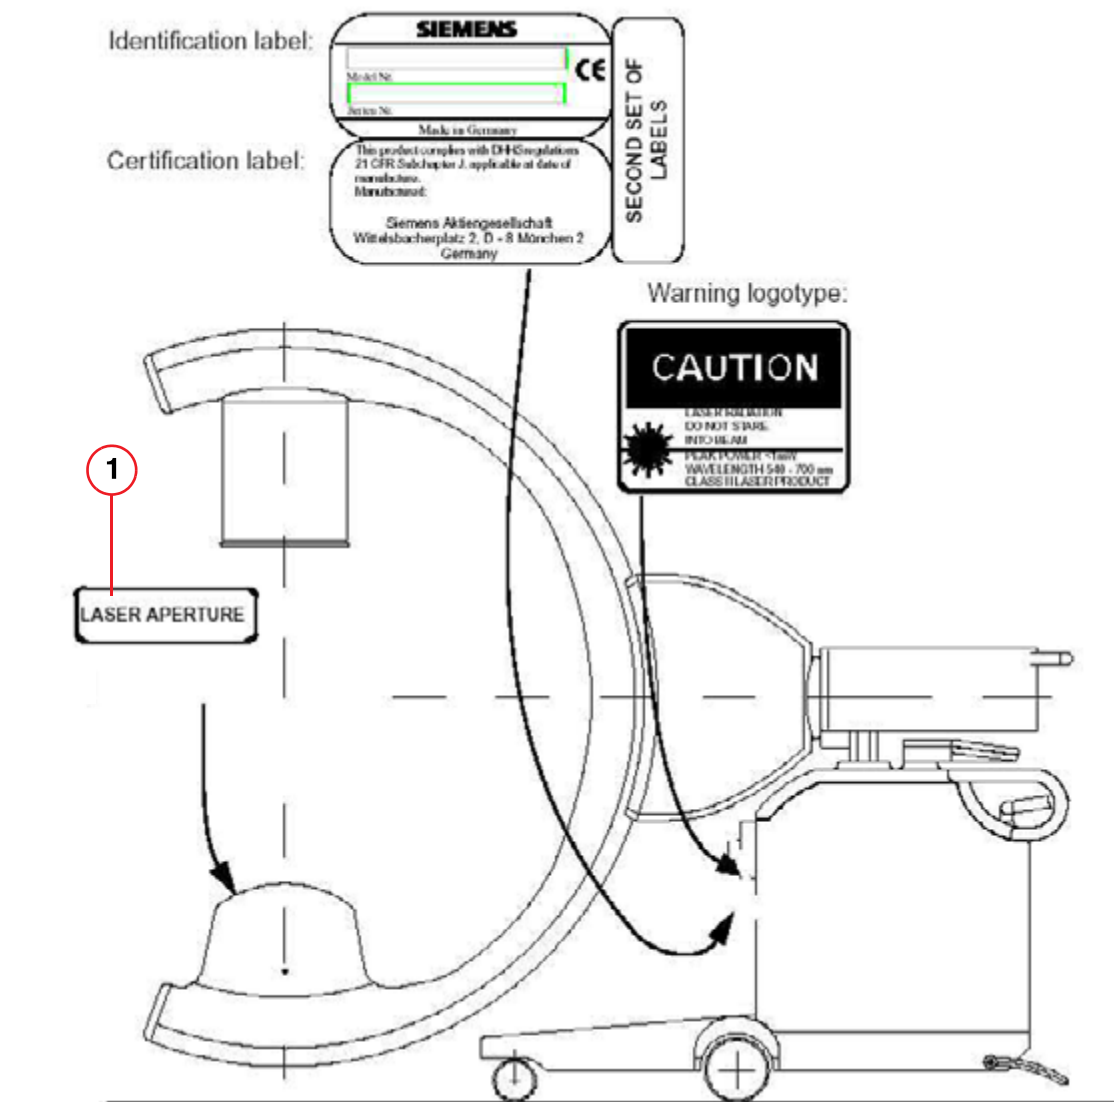
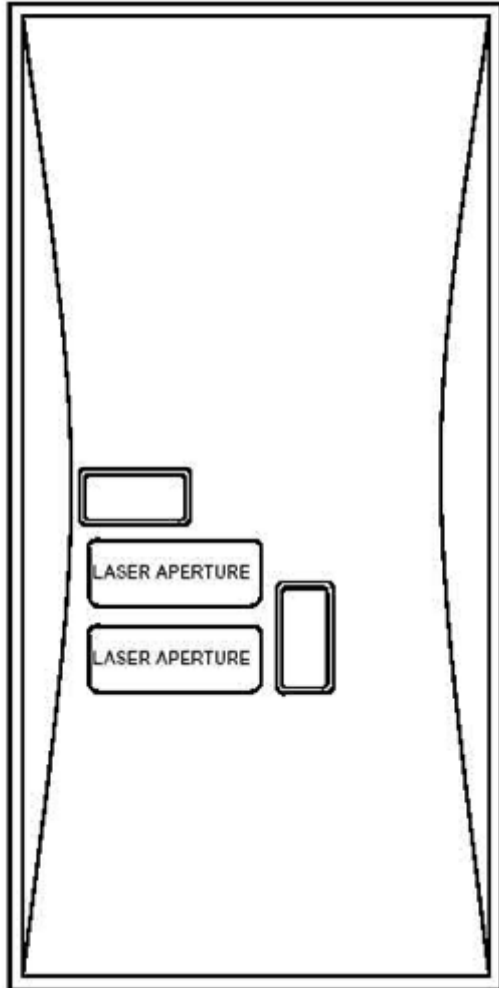

Fig. 6: Affixing identification labels for USA new
Fig. 7: Affixing identification labels 2
- Visually inspect the identification labels, warning logo type "Laser class 2", DHHS certification label, and both laser aperture labels as in (Fig. 6 / p. 15) and (Fig. 7 / p. 16).
**Great Britain:** Check warning label according to IEC 825 (text) in local language, warning label according to IEC 825 (symbol) and identification label. Also check laser aperture labels (Fig. 7 / p. 16).